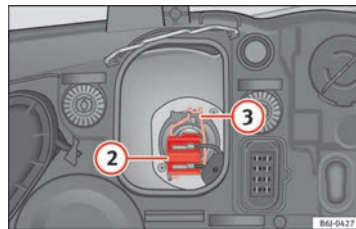

Fig. 167 Dipped beam headlights.
- Remove connector ⇒ Fig. 167 ② from the bulb.
- Unclip the retainer spring ⇒ Fig. 167 ③ pressing inwards to the right.